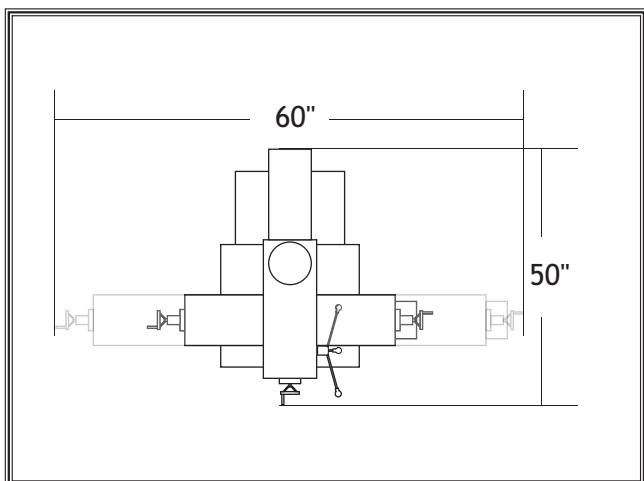

Figure 7. M1008 minimum working clearances.
- **Working Clearances:** Consider existing and anticipated needs, size of material to be processed through the machine, and space for auxiliary stands, work tables or other machinery when establishing a location for your mill. See **Figures 7 & 8** for minimum working clearances.